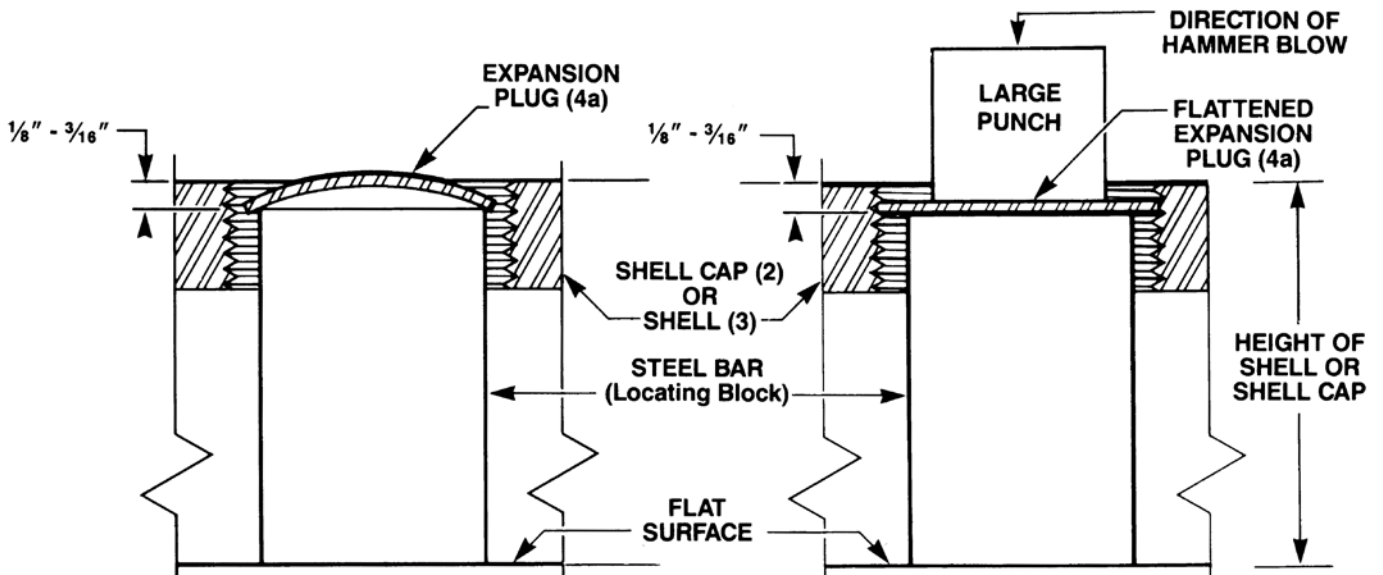

Figure 2-2. Expansion Plug Replacement
1. Refer to Figure 2-2 for replacement of expansion plug (4a) in shell (3) for upright units or shell cap (2) for inverted units.
- a. Set shell cap (2) [inverted models] or shell (3) [upright models] over a steel bar which is approximately 1/8" to 3/16" shorter in height than the shell or shell cap. The diameter of the bar should be close to the I.D. of the shell or shell cap.
2. For units with tapered roller load bearings, press bearing cones onto worm gear (6) with small end of cones away from gear face. Be sure that cones are seated properly against gear shoulder.
3. Assembly spacer (23) on ball screw (5).